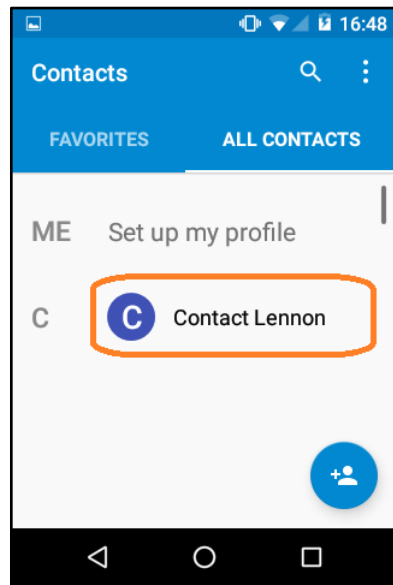
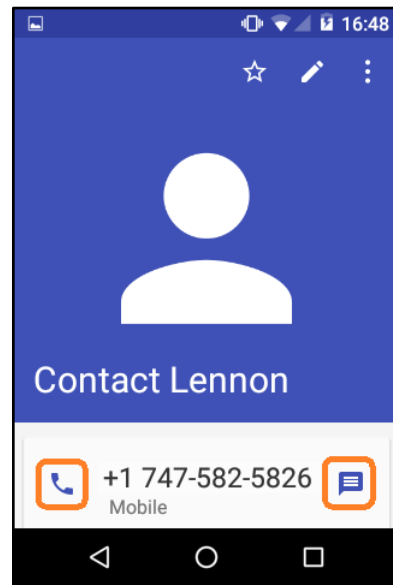

Figure 14: Create List
Figure 15: Contact Information
5. To initiate a call from the contact list, tap the desired contact name in the list, as shown in **Figure 14**. This displays the contact's information, as seen in **Figure 15**.
The main menu of the SHOUT app, **Figure 14**, provides access to the four submenus of the application: **Texting, Tracking, Utilities, and Settings**. At the bottom of the screen is text indicating the application status. If it has successfully connected to the SHOUT sp, the text will read “Connected”. When not connected, the text will read either “Not Connected” or “Incompatible with SHOUT sp + <version number>”. If *Not Connected* is displayed conducting a power cycle on the unit should remedy the issue. The *Incompatible* message indicates that there is a mismatch between the app and device software versions. Updating both to the latest available software will correct the issue.